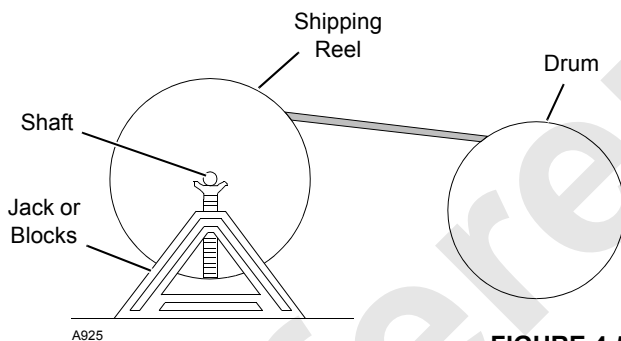

FIGURE 4-52
1. Mount wire rope shipping reel on a shaft supported at both ends by jacks or blocks as shown in Figure 4-52.